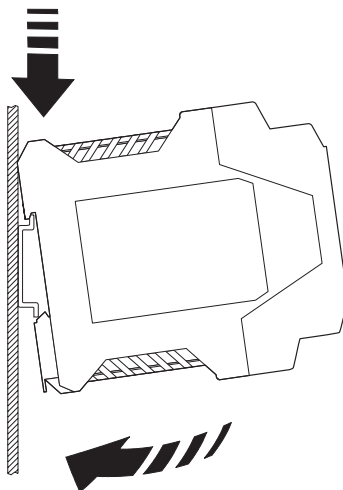

Figure 2-2 Mounting
- Mount the module on a 35 mm EN DIN rail (see Figure 2-2).